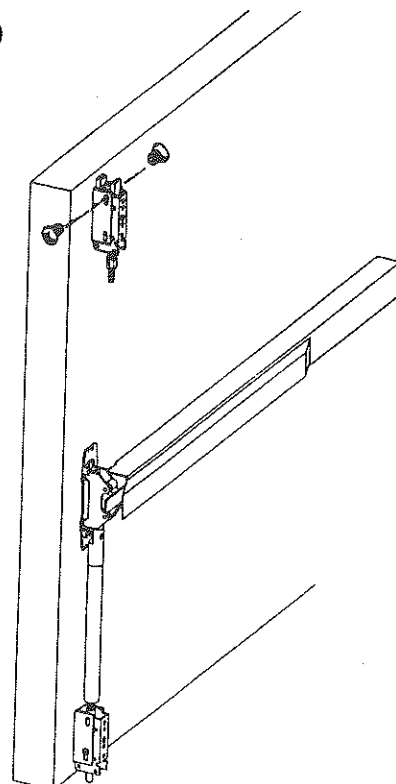

Figure 8
1. Mount top latch assembly into mounting bracket. (See Figure 8.)